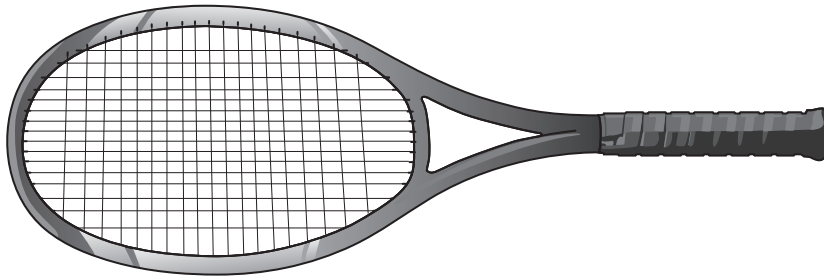

Fig. 1.1
- 1 Fig. 1.1 shows a tennis racket made from carbon fibre reinforced plastic (CFRP).